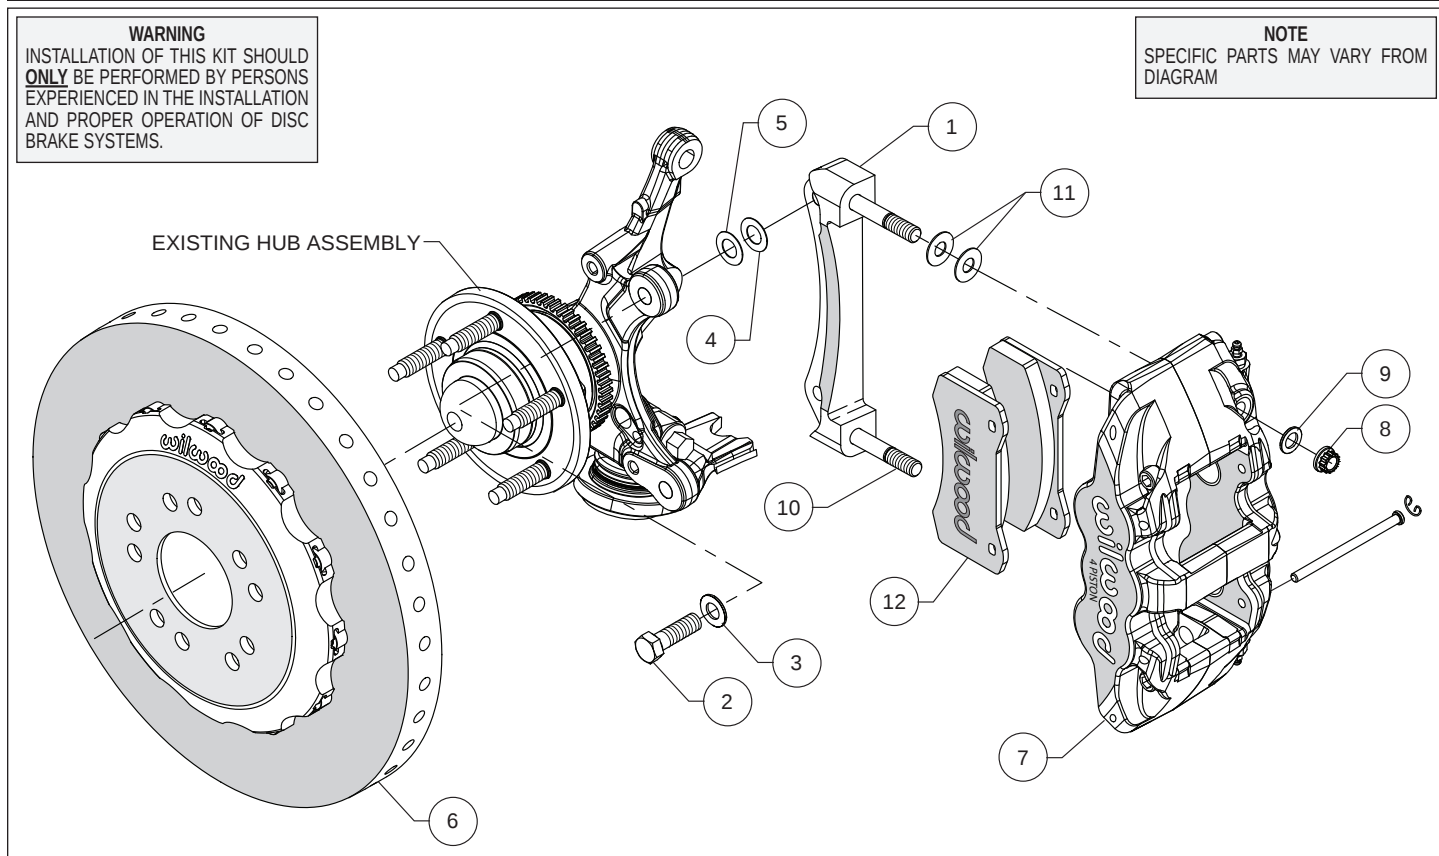

Figure 1. Typical Installation Configuration
Assembly Instructions (numbers in parenthesis refer to the parts list and Figure 1 on the preceding pages):
- The caliper mount bracket (1) should initially be installed with clean, dry threads on the mounting bolts. Orient the bracket, as shown in Figure 1 and Photo 1, and install using bolt (2) and washer (3). Initially place two .033" thick shims (4) on each bolt between the bracket and upright, Figure 1. Temporarily tighten the mounting bolts. **NOTE:** The bracket must fit squarely against the mount bosses on the upright. Inspect for interference from casting irregularities, machining ridges, burrs, etc. Later, after the caliper alignment has been checked, the mount bolts will be secured using red *Loctite*® 271.
- NOTE:** This kit contains distinct right and left hand calipers that must be mounted in a specific direction, as described below. Lubricate the caliper mounting studs (10) with lightweight oil. Initially place two .016" thick shims (11) on each stud between the caliper and the bracket, as shown in Figure 1 and Photo 2. Mount the caliper (7) onto the bracket (1) using lock nuts (8) and washers (9), Figure 1. Temporarily tighten the lock nuts. Ensure that the caliper is mounted so the largest pistons are at the rotor exit end of the caliper, in relation to the direction of the rotor.
- Remove the two pad retaining pins from the caliper (7) by carefully popping out the pin retaining clips and sliding out the pins. Insert the brake pads (12) into the caliper from the bottom, Figure 1 and Photo 4. With the friction material facing the rotor, secure the brake pads in place with the pad retaining pins and clips, Photo 5. Reinstall the caliper onto the caliper mounting bracket and temporarily tighten the lock nuts. Check that the top of the brake pad is flush with the outside diameter of the rotor, Photo 6. If not, adjust by adding or subtracting shims (11) between the caliper and the bracket. After the caliper pad height is set, torque the caliper lock nuts (8) to 47 ft-lb.